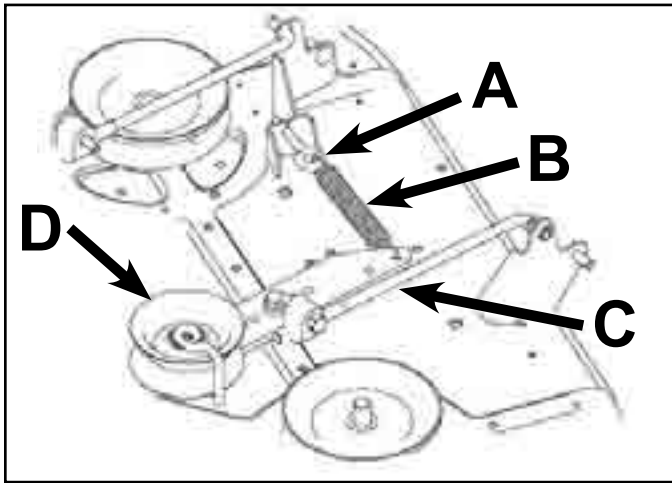

Fig A6 012
13. Hook the idler spring from the idler pulley arm to the eyebolt on the mower (Fig. A6 012).